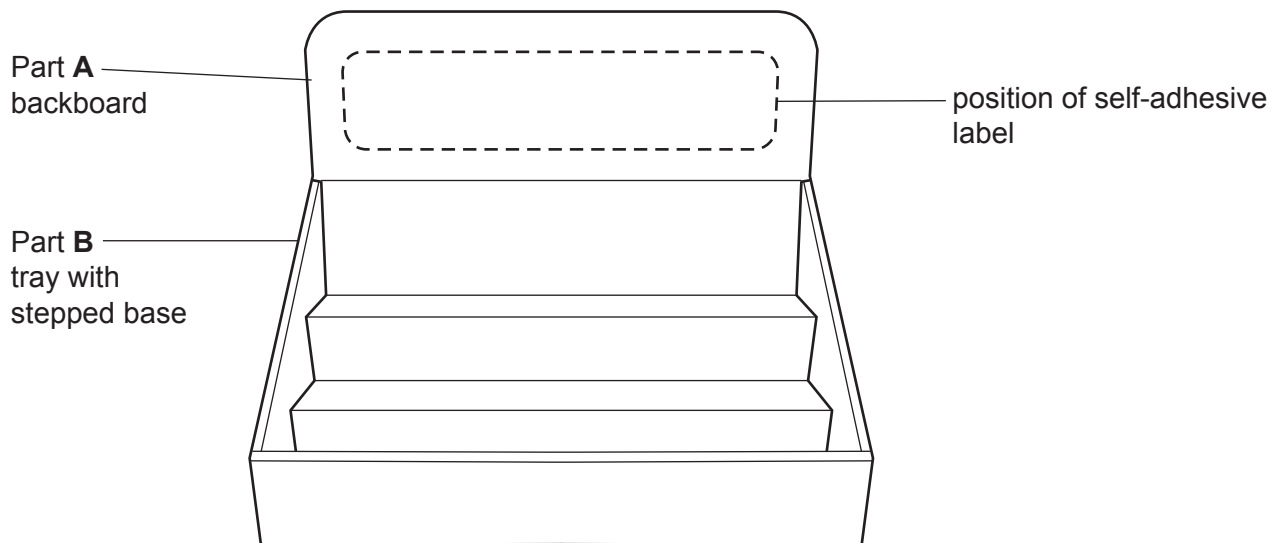

Fig. 2.1
- 2 Fig. 2.1 gives details of a corrugated cardboard point of sale (POS) display which is to be made in a school workshop.